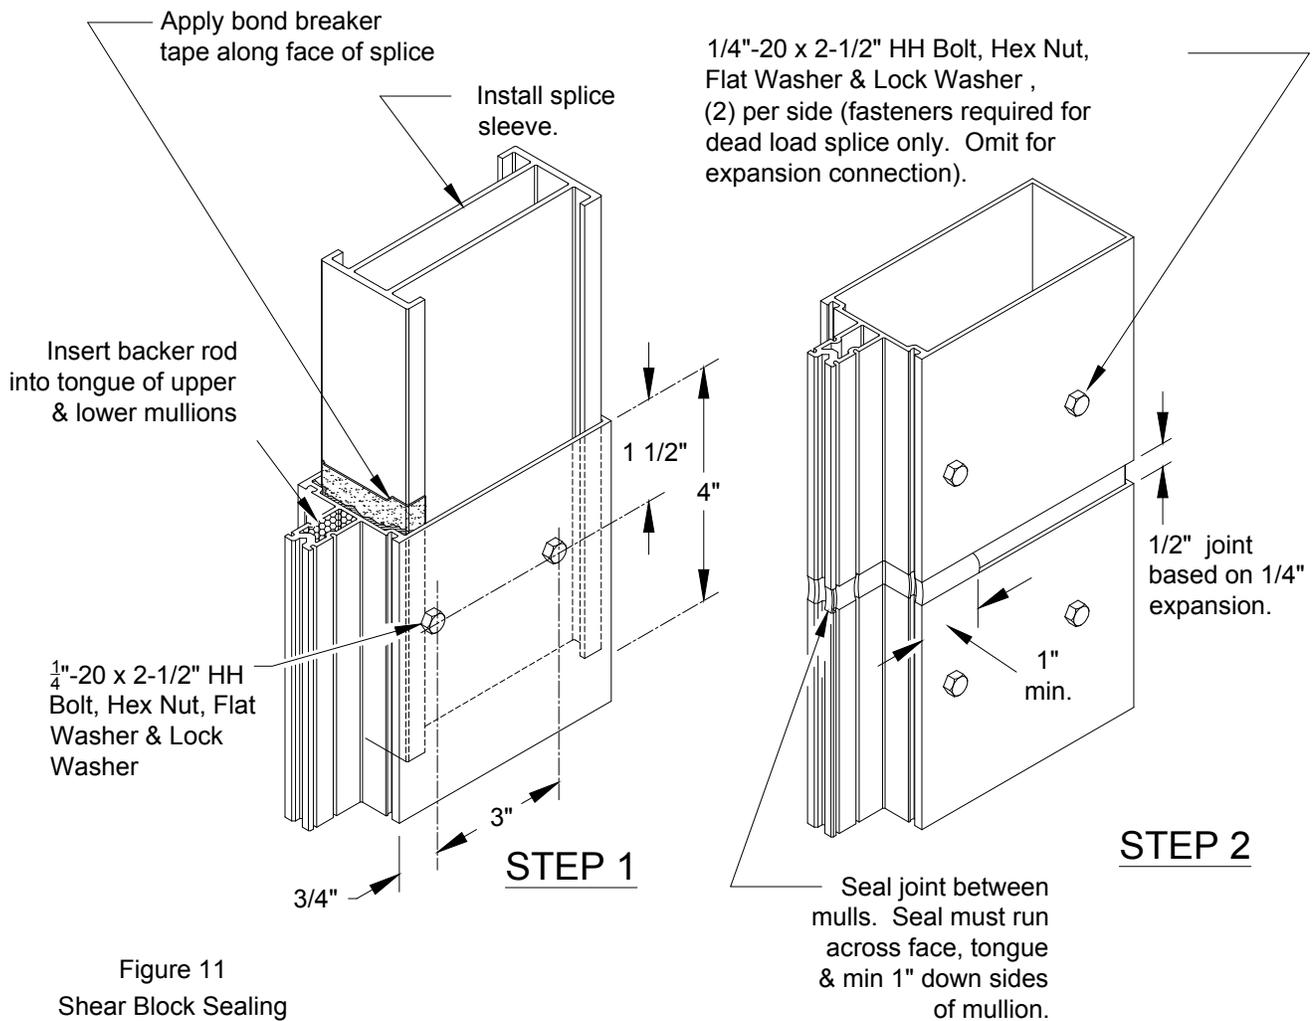

Figure 10
- 2.1.14 Install the next vertical above, temporarily shimming between verticals to maintain proper splice joints (refer to approved shop drawings). **See FIGURE 10, page 14.**